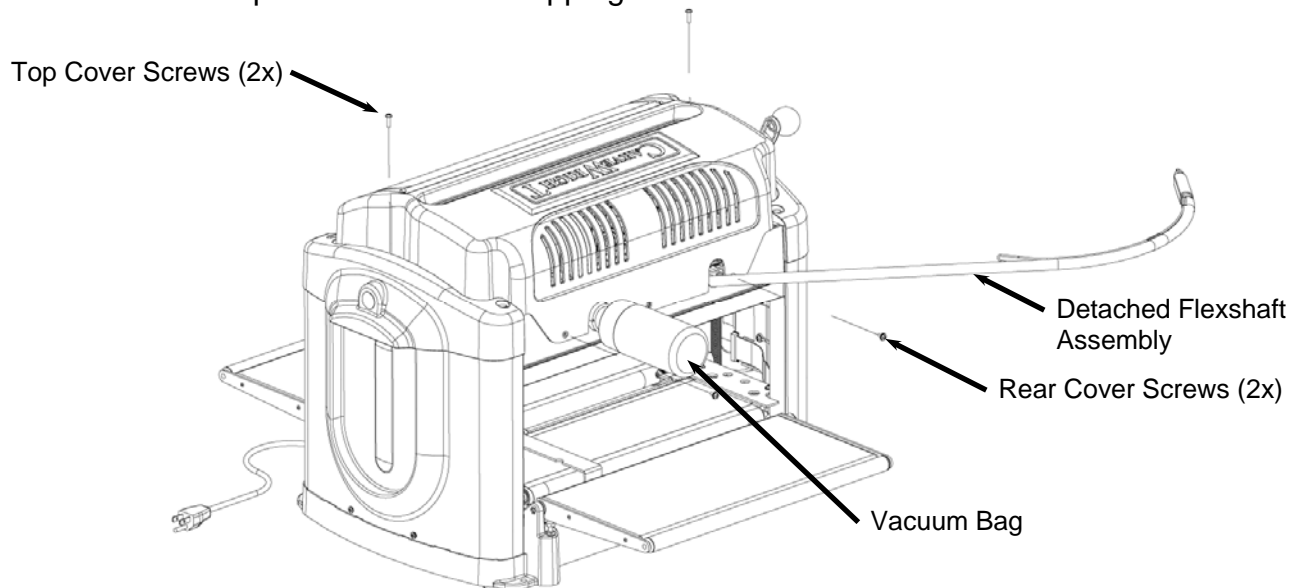

FIGURE 4: EXPLODED VIEW OF THE COVER SCREWS
3. **Remove the screws securing the cover:** Remove the four cover screws as shown in Figure 4 with the #2 Phillips screwdriver. Use a magnetic tipped screwdriver if possible to avoid dropping the screws into the machine.
- f. Replace the four screws as shown in Figure 4. The two long screws go in the vertical locations.